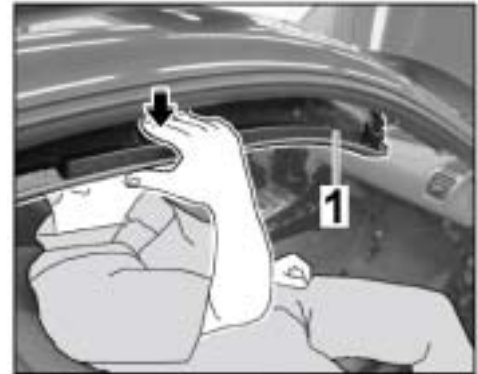

Figure 12
1.10.2 Carefully pull the headliner ⇒ *Figure 12-1-* down ⇒ *Figure 12-arrow-*.